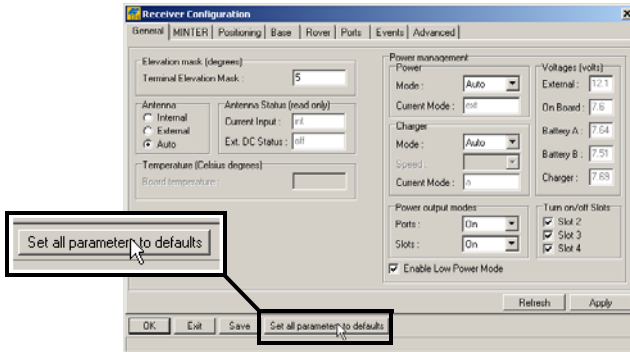

Figure 3-7. Set All Parameters to Defaults
6. Click **Set all parameters to defaults** (Figure 3-7).